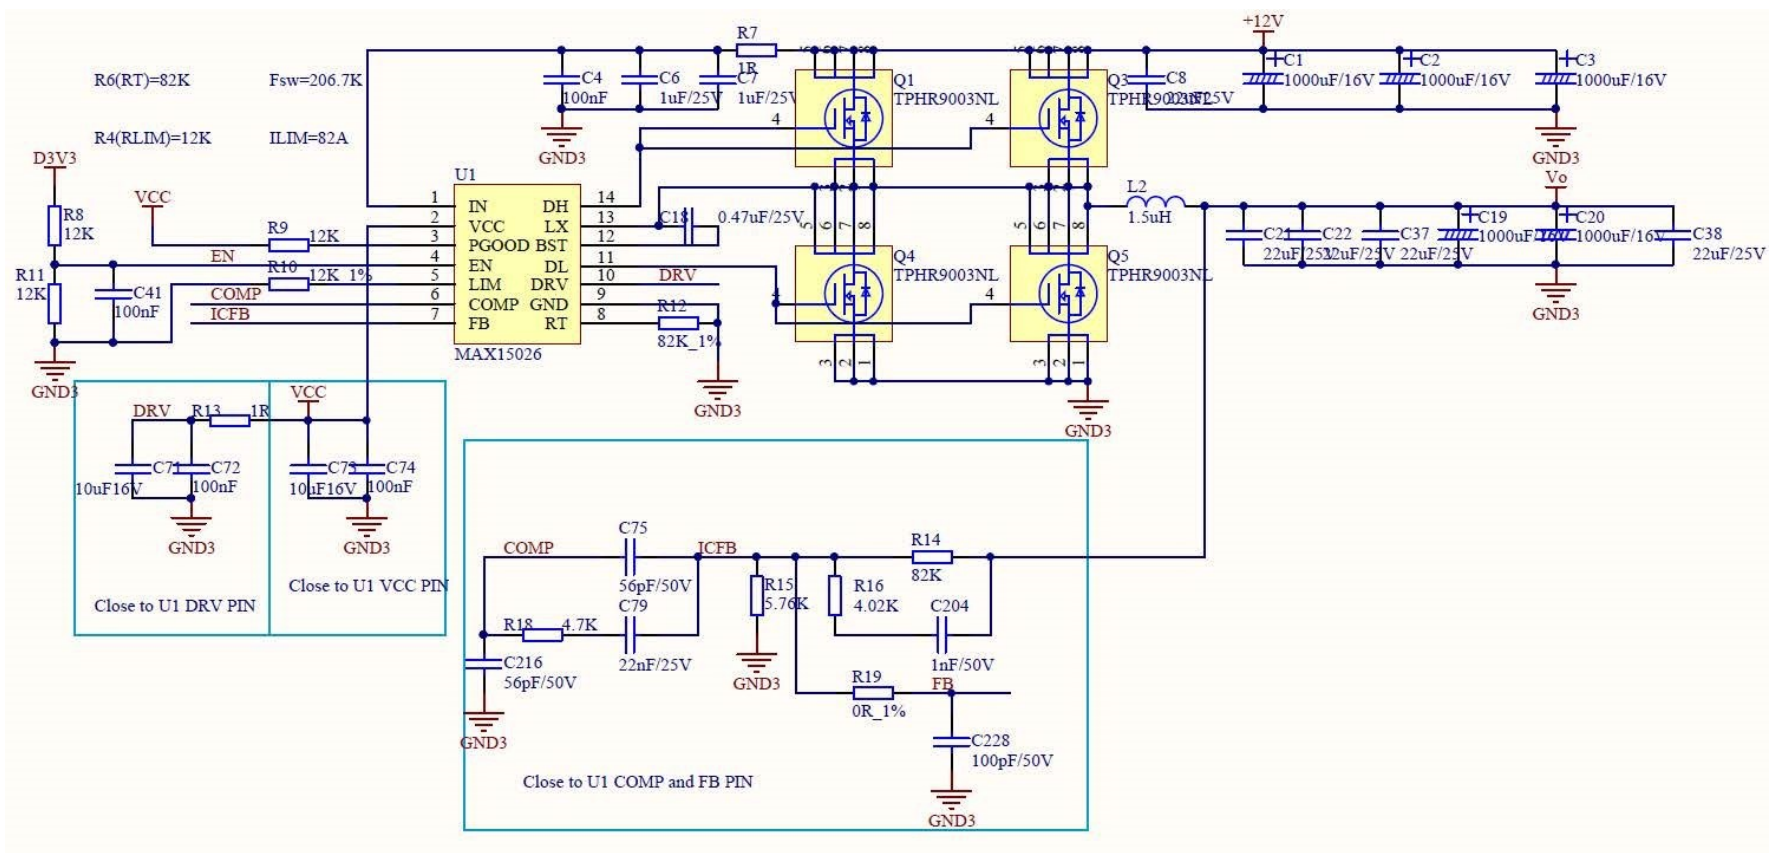
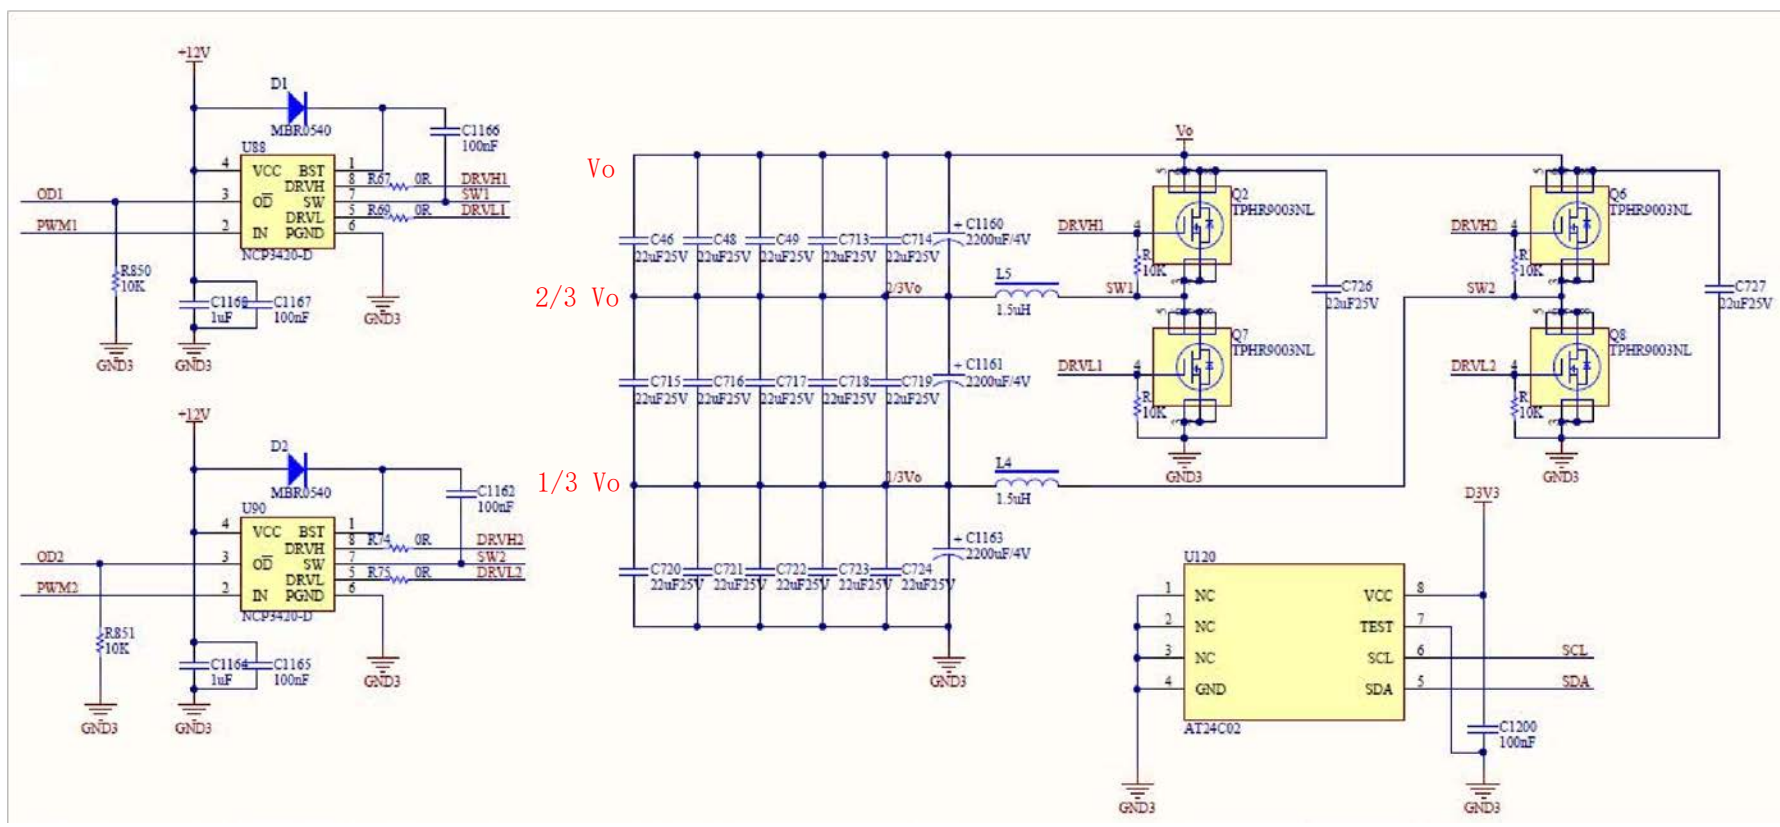

Fig 18. DC-DC Schematic Diagram
Fig 19. Clamping Circuit Schematic Diagram
EPROM stores the information like voltage, frequency, etc. of T9+ Hashboard, and Fig 19 is EPROM Schematic
6. DC-DC Circuit: Parallel clamping circuit composed of MAX15026 and CMOS tube TPHP9003NL as well as MBR0540 and NCP3420D. See Fig 18 and Fig 19